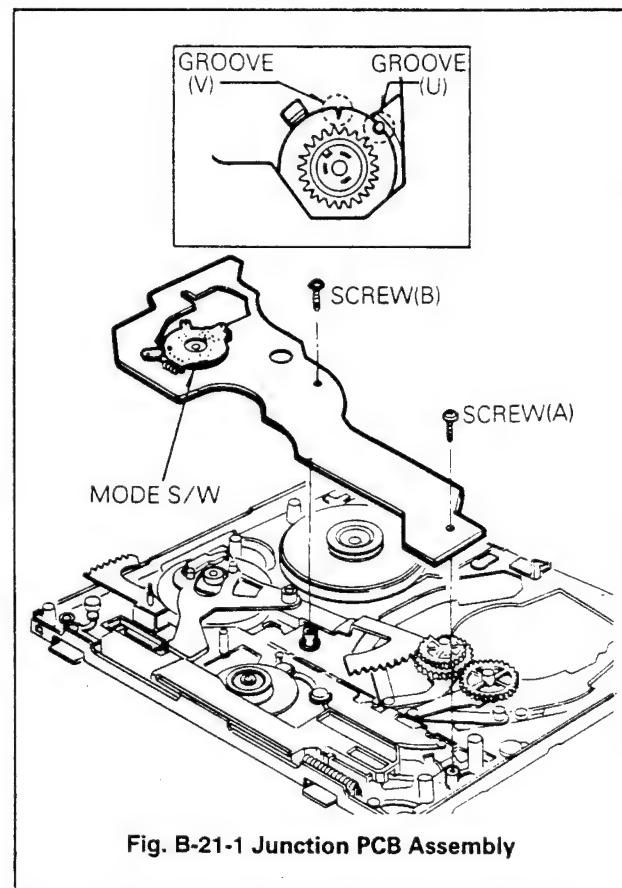

Fig. B-21-1 Junction PCB Assembly
21. Junction PCB(Printed Circuit Board) Assembly(Fig. B-21-1)